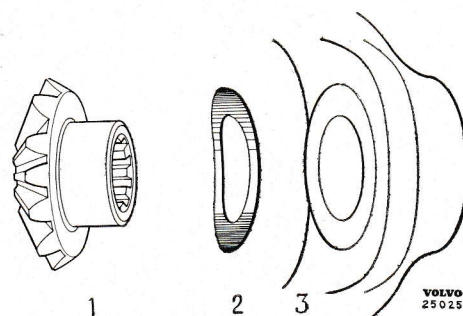

Fig. 29. Fitting spring thrust washers.
washers or spring thrust washers. Fit the spring thrust washers correctly. The "back" should be turned to face the differential carrier, see Fig. 29. After the washers have been checked and replaced if necessary, the lock pin (27) is fitted.
4. Fit the crown wheel (15). Make sure that the contact surfaces are clean and free from burr. Tighten the bolts (38) to the degree of torque shown in the specifications and secure with the tab washers (39).